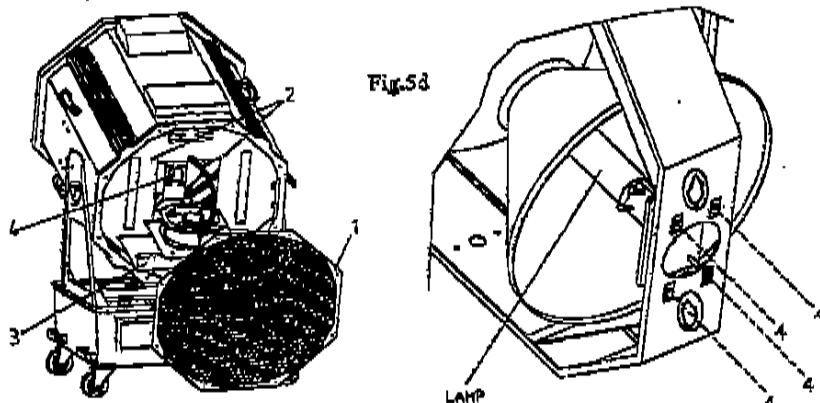

Fig. 5d
The lamp holder is fixed to a teflon plate which is fitted with 4 holding spring screws (4 - fig. 5d). It's possible to modify the lamp position compared to the reflecting mirror by setting the 4 self-locking bolts.
3) Remove the safety grid (1-fig. 5d) untightening the 8 fixing screws.
4) Remove the 2 fixing screws (2-fig. 5d) and gently lower the access cover (3-fig. 5d).